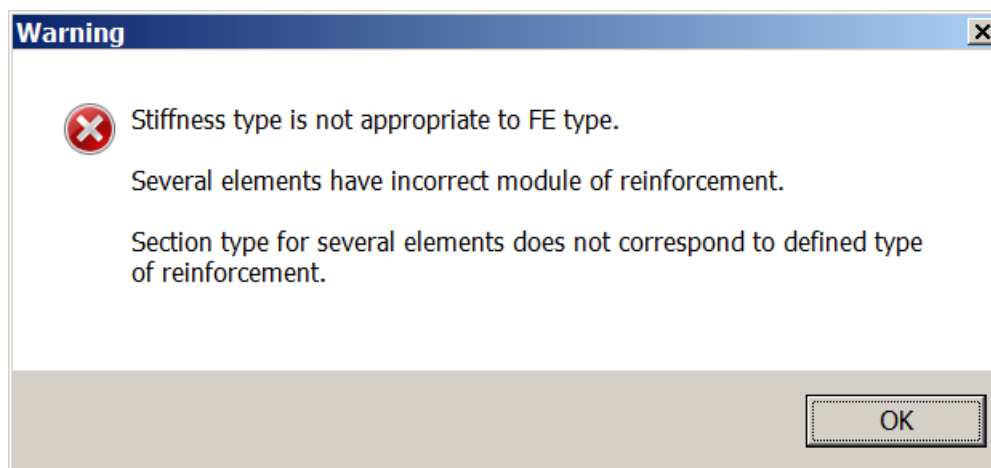

Figure 18.9 **Warning** box
- ⇒ In the **Stiffness and materials** dialog box, click **Apply** . In the **Warning** box (see Fig.18.9), click **OK**.